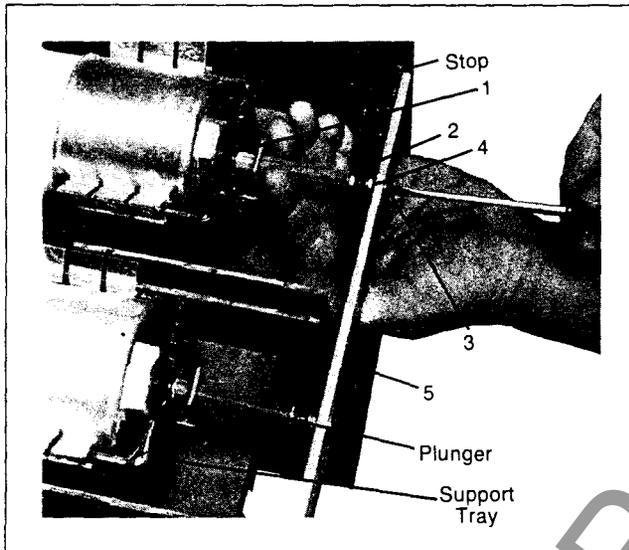

Figure 10. Adjustment of the Plunger
1. All fuses must be installed in clips with load side of fuse resting on support tray as shown in **Figure 10**. Plunger end of fuse must be facing forward, away from disconnect fingers on contactor.
2. With the trip bar in its normal spring return (deactivated position), the trip bar should rest against the stop screw on the right hand contactor side plate as shown in **Figure 10**. The trip bar must be held in this position while performing adjustments 3 and 4.
3. Adjust each of the three plunger assemblies shown in **Figure 10** to obtain a $1/16"$ (1.6mm) gap between the plunger (1) and the end of the corresponding fuse as follows: Insert a $1/16"$ (1.6mm) shim between the end of the fuse and the plunger (1). Loosen locknut (2) and turn adjusting screw (3) until there is no gap between stop nut (4) and trip bar (5). Retighten lock nut (2).